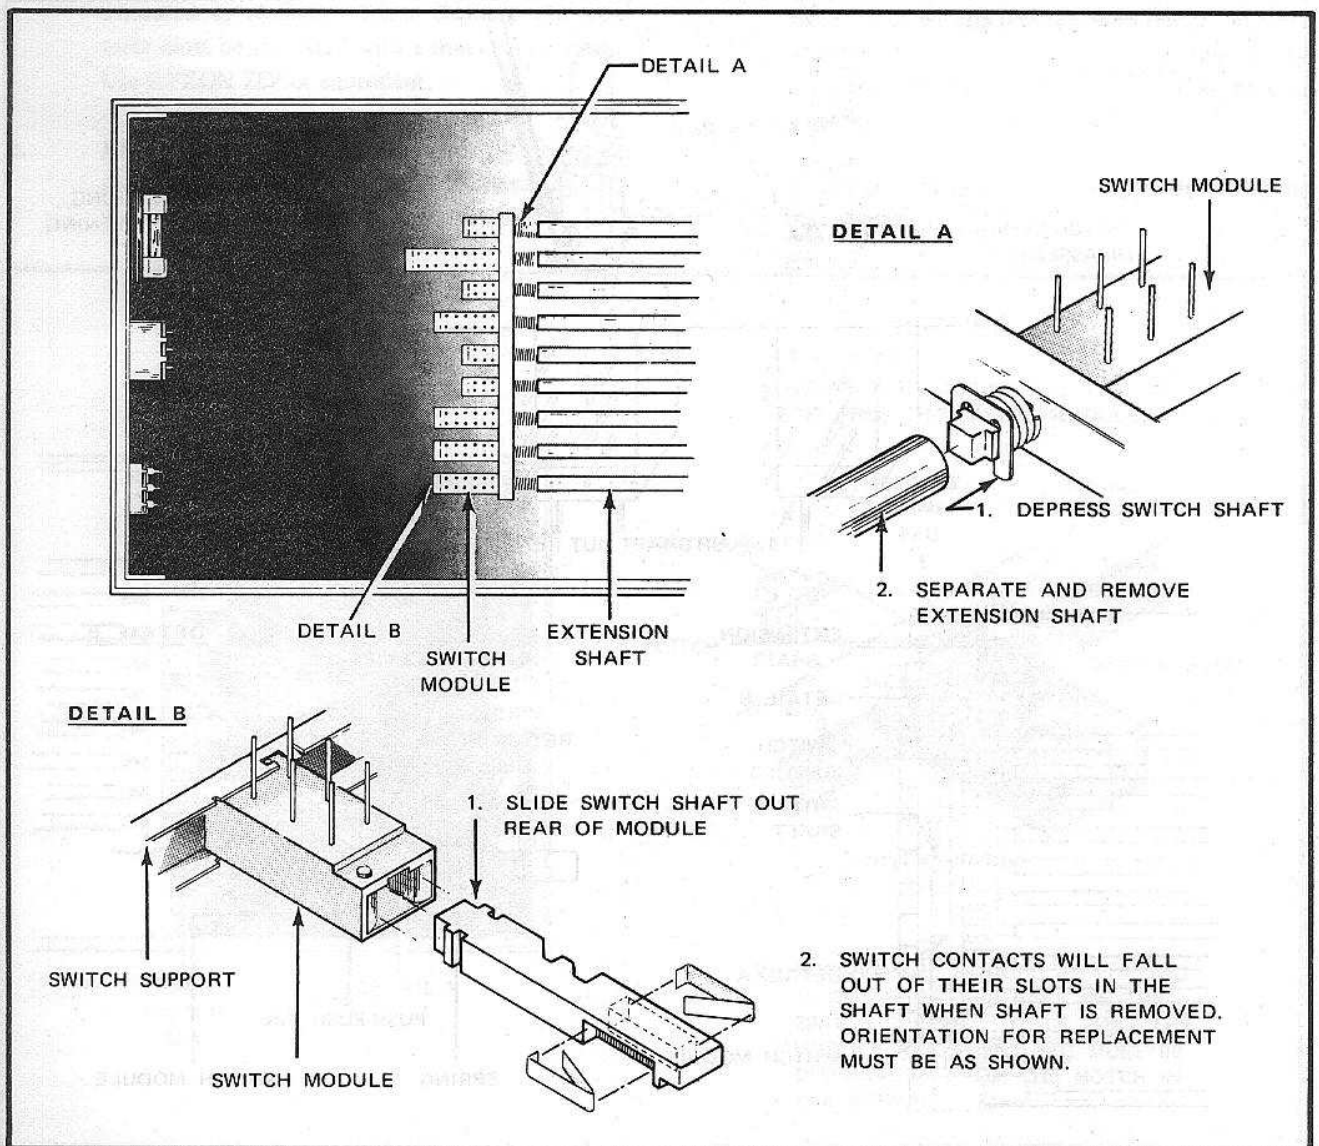

Figure 4-2. DISASSEMBLY OF REAR SWITCH MODULES
4-20. PROCEDURE NO. 1 - DISASSEMBLY OF REAR SWITCHES (Figure 4-2)
- a. Remove the extension shaft associated with the switch by depressing the switch shaft and removing the extension shaft as shown in Detail A, Figure 4-2.
- c. Remove the switch shaft by pushing it slowly out the back of the switch module. The moveable switch contacts will spring out of their slots in the shaft as this is done (see Detail B, Figure 4-2).
switch by depressing the switch shaft and removing the extension shaft as shown in Detail A, Figure 4-2.
the switch shaft is removed (see Detail B, Figure 4-2).